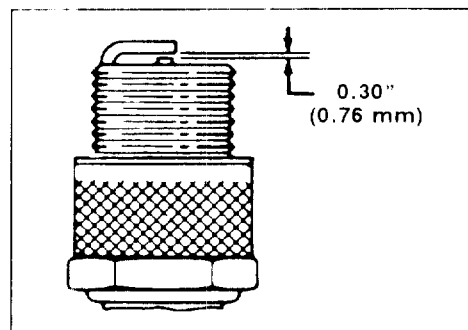

Figure 31
3. Set air gap between electrodes of new spark plug at 0.030" (0.76 mm) (Fig. 31). Next, install spark plug in cylinder head. Tighten plug to 15 ft-lb (20.4 N-m).